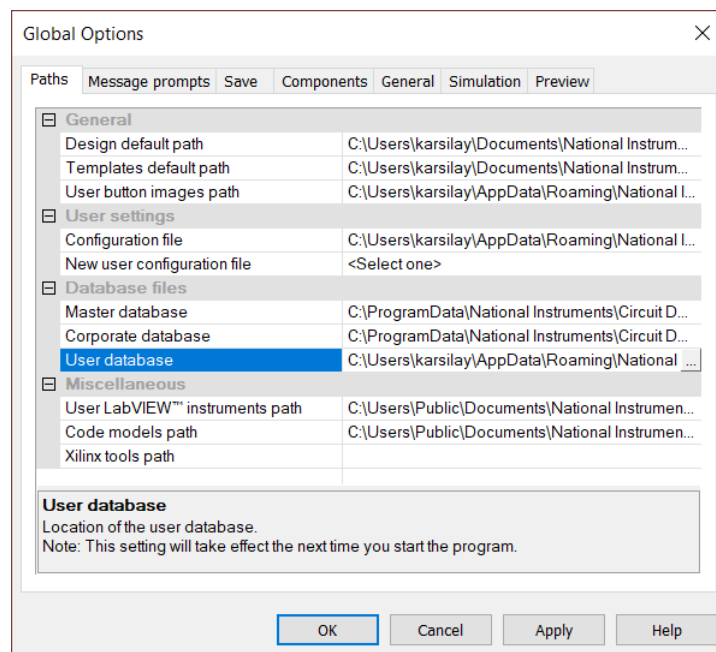

Figure 4: MultiSim global options
- In the Global Options window (see Fig.4), click on "User database", then click on ...